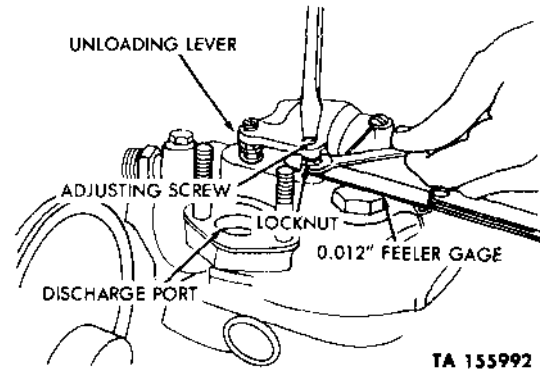

Figure 2-190. Checking and adjusting air compressor unloader.
*(1) Unloader Valve Clearance Adjustment.*
*(a)* Remove unloader-valve cover (fig. 2-190) from compressor cylinder head. Remove cover gasket from cylinder head and discard it.
*(b)* Using feeler gage (fig. 2-190), check clearance of unloader valves; it should be 0.010 to 0.015-inch. If clearance is not within these limits, adjust valves as described in *(c)* below. If clearance is correct, proceed as in *(d)* below.
*(c)* Loosen locknut (fig. 2-190) on both adjusting screws, turn screws until a 0.12-inch clearance is obtained, and tighten locknuts.
**(2) Drive belt tension adjustment — gasoline engine.**